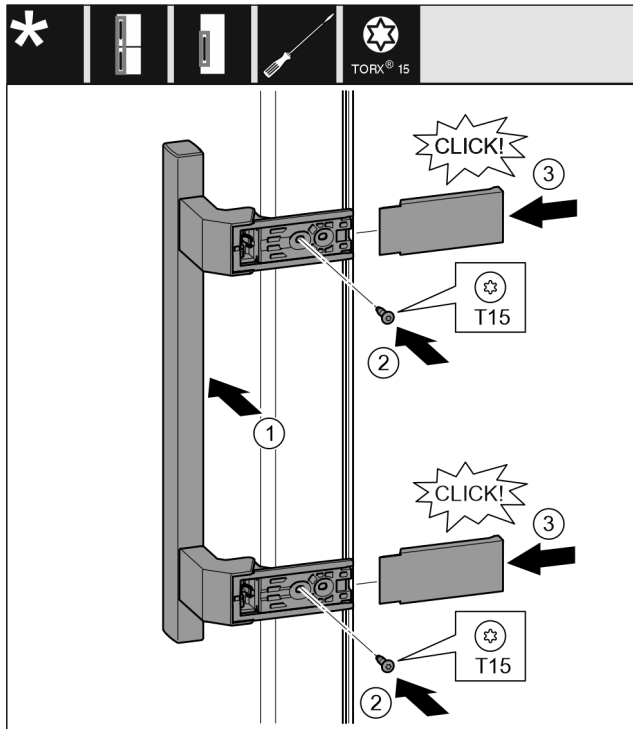

Fig. 15
- ▶ Attach the handle on the opposite side. Fig. 15 (1)
- ▶ Tighten screws with screwdriver T15. Fig. 15 (2)
- ▶ Place the covers on the side and push them on. Fig. 15 (3)